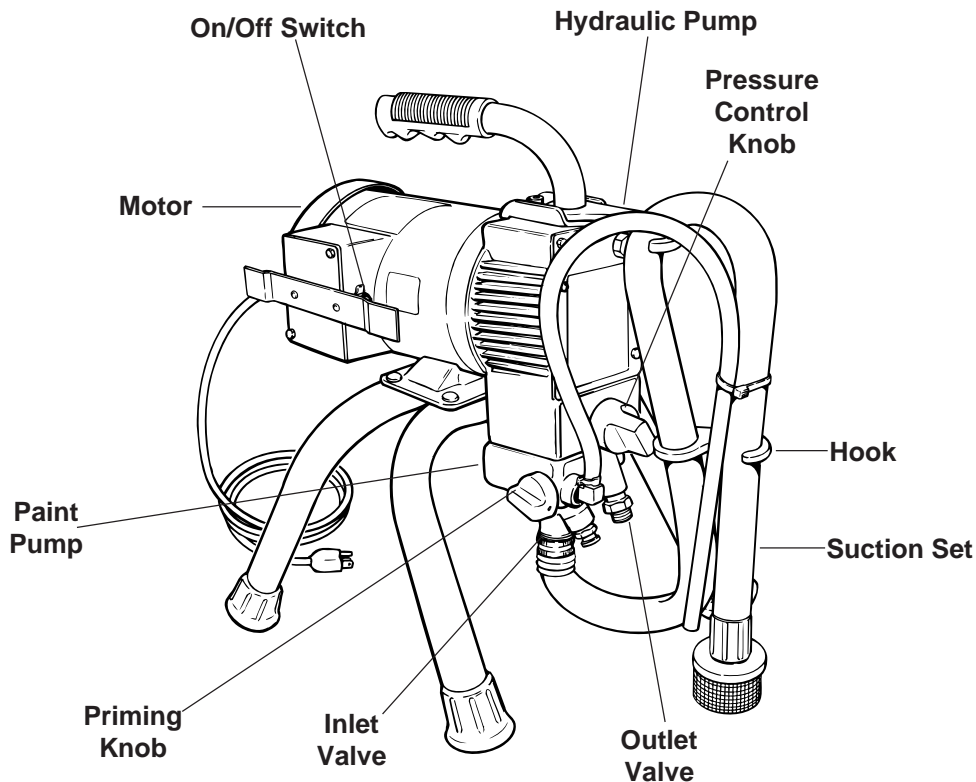

Figure 1.-Sprayer Component Locations
See Figure 1 for component locations.
Power for the sprayer is supplied by a 3/4 horsepower, TEFC electric motor (see Figure 1). It is located at the rear of the sprayer and is connected to the hydraulic pump. The motor is furnished with a 3-wire electric cord. The third wire (ground) should never be cut off. Any extension cords used
The ON-OFF switch is located on the side of the electric motor (see Figure 1).
For the hydraulic pump location, see Figure 1. It operates as follows: The electric motor is connected to the eccentric bearing, which is inside the hydraulic pump. The piston rests on the bearing. The movement of the bearing causes the piston to move up and down. When the trigger on the gun is pulled back, this action moves the pump diaphragm. Diaphragm movement forces the paint through the outlet valve and out the paint hose and spray gun. The paint goes through the spray gun at high pressure, causing it to break-up (atomize) into fine particles. This gives a smooth and even paint coating. Pressure and delivery rate are regulated by the pressure control knob and spray tip size.
The pressure control knob controls the pressure control valve. It is manually operated. It is located on the front of the hydraulic pump near the bottom of the sprayer (see Figure 1). When the knob is turned **clockwise**, more hydraulic pressure is directed toward the diaphragm. When the knob is turned **counterclockwise**, less hydraulic pressure is directed toward the diaphragm. The pressure control knob regulates the pressure on the diaphragm from 0 PSI when turned fully **counterclockwise** to 3000 PSI when turned fully clockwise.
The paint pump is located below the hydraulic pump (see Figure 1). The two pumps are bolted together by four socket head capscrews. The diaphragm separates the pumps. The paint pump operates as follows: The piston in the hydraulic pump forces hydraulic oil toward and away from the diaphragm. This action moves the diaphragm up and down. Diaphragm movement forces paint through the spray gun at high pressure.
The inlet valve is located on bottom of the paint pump at the front of the sprayer (see Figure 1). The suction nut end of the suction tube screws onto this valve. The valve operates automatically. It controls the flow of paint from the paint container into the paint pump. It does this by opening up when the piston and diaphragm are on the downstroke, allowing a “gulp” of paint to enter the paint pump. The inlet valve then closes when the piston and diaphragm are on the upstroke. This closing prevents paint from going back through the inlet valve into the paint container (inlet valve acts as a check valve). Instead, the paint is directed out the spray hose and spray gun by the outlet valve.
The outlet valve is also located on bottom of the paint pump at the front of the sprayer (see Figure 1). It operates automatically, serving as a check valve. When the priming valve is on  (spray) position, the outlet valve directs the flow of paint out into the spray hose and into the spray gun. When the diaphragm and piston act to “gulp” more paint, the outlet valve closes. The closed valve prevents (checks) paint in the spray hose and spray gun from returning to the paint pump.
The priming knob controls the priming valve. It is located on the right front of the paint pump at the front of the sprayer (see Figure 1). It can be manually turned to the ☺ or ⚡ position. When on ☺ (prime) it serves to rid the sprayer of air by directing the initial air volume of the inlet valve back into the paint container. It will continue to do this until paint comes through and it is manually switched to the ⚡ (spray) position. It then directs the paint out the outlet fitting to the spray hose and on to the spray gun.
The complete suction set consists of (1) the suction tube with a suction filter on one end and (2) the return tube (see Figure 1). Both suction and return tube are chemical and oil resistant. One end of the suction tube and one end of the return tube screw onto the paint pump (see Figure 1). These two fittings need to be tight enough to keep air from being drawn in. The other two ends go in the paint container. When the priming knob is turned to ☺ (prime), paint is drawn up the suction tube into the paint pump. The paint pump then routes the paint through the return tube back to the paint container. This primes the painting system. When the priming knob is turned to ⚡ (spray), flow is shut off through the return tube and the sprayer can spray.
The high pressure outlet fitting is located on the front side of the paint pump (see Figure 1). The paint hose is connected to it. The outlet fitting connections must be very tight. Otherwise, fluid will leak out the connections when pressure builds up in the system.
The high pressure paint hose (see Figure 1) has permanently swaged fittings. It is grounded with a static conductor. This conductor serves to "drain off" any static charge, preventing shock. The conductor is sandwiched between two insulating sheaths which resist breaking and abrasion.